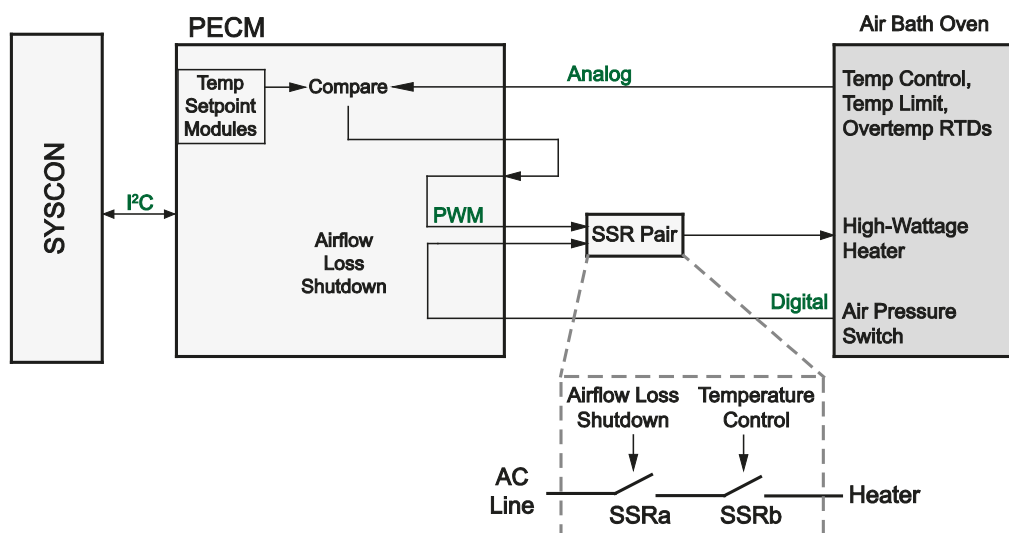

Figure 2-34 PECM High-Wattage Heater Control
The HWH control path is shown in Figure 2-34.
- See Figure 2-34 for connector locations.
- When a purged enclosure is not required per the safety codes, connector J2 on the PECM2 can be used to disable the purge alarm. See Figure 2-34 for connector locations.
- L1 MMI LEDs** Maintenance Panel Level 1 consists of LEDs on the outside of the analyzer door. It is intended for use in GCs that are not equipped with the full feature Maintenance Panel. The PECM supplies the control signals for Maintenance Panel Level 1, if equipped. For PECM-1, the Maintenance Panel Level 1 connects to position J17. See Figure 2-34 for the location of connector J17.